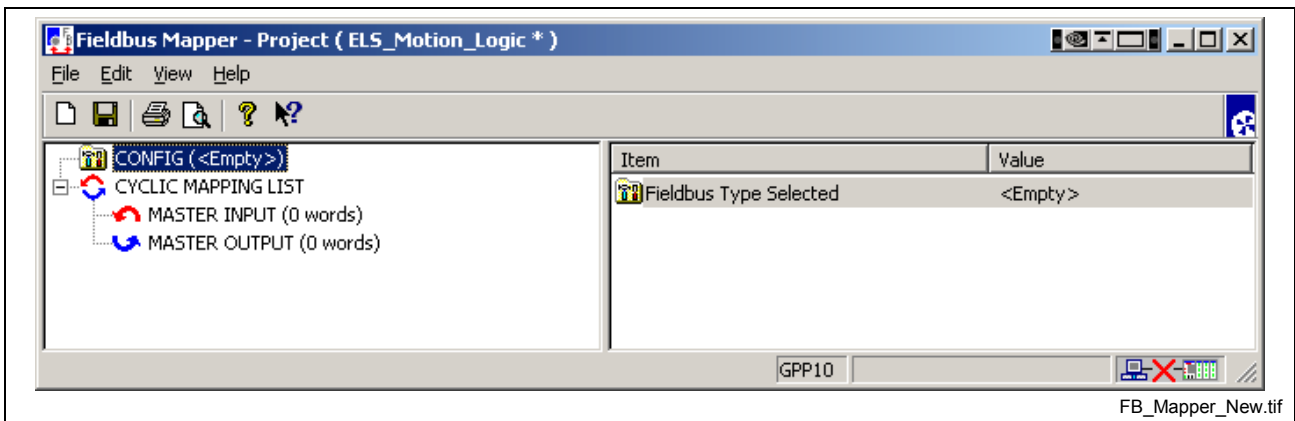

Fig. 7-97: FBMapper – Project Window
2. Select **Commission** ⇒ **Fieldbus Mapper**. The main Fieldbus Mapper window opens empty (refer to Fig. 7-97).